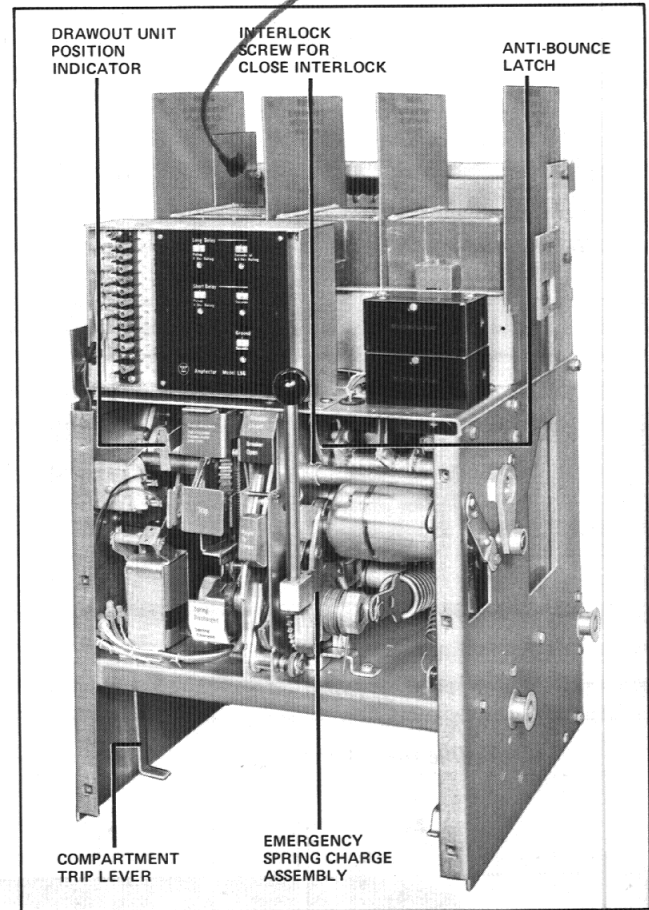

Fig. 25 DS-632 Breaker with Front Panel Removed (391063)
4. By action of the trip plate on the front of the breaker compartment door (providing the breaker is in the connected position.) A flap on the breaker compartment hinged door, operating through a sliding link and lever fastened to the cradle move the compartment trip lever extending from the bottom of the drawout unit. Refer to Figures 25 and 26.